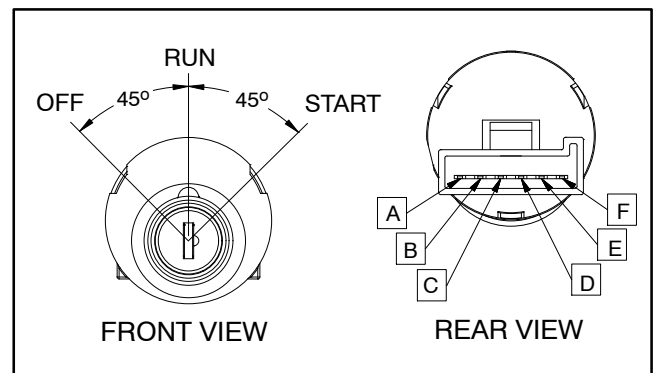

Figure 7
4. With the use of a multimeter (ohms setting), the ignition switch functions may be tested to determine whether continuity exists between the various terminals for each switch position. The switch terminals are marked as shown in Figure 7. The circuitry of this switch is shown in the chart below. Verify continuity between ignition switch terminals for each switch position.